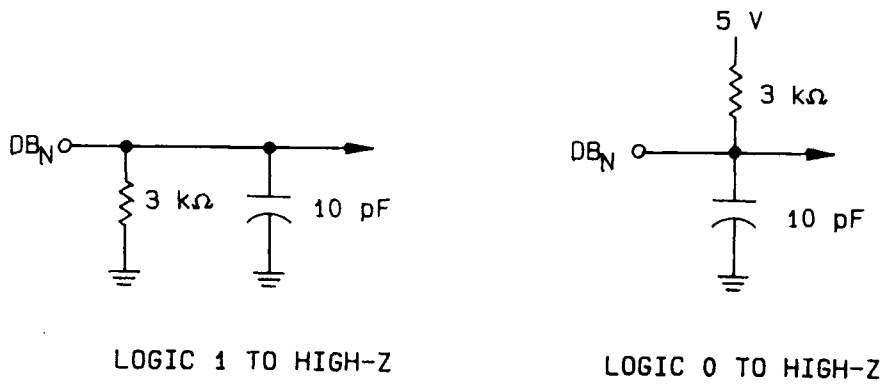

FIGURE 6. Load circuit for output float delay test.
- 11/  $t_{\text{HDR}}$ ,  $t_{\text{HD}}$ , and  $t_{\text{HL}}$  are measured from the point when the input signal crosses the Schottky TTL logic threshold voltage (1.3 V), to when the output voltage has moved 0.5 V in the direction of its final high impedance output voltage. Each individual data bit (DB0 - DB11) is measured for both logic one to "high Z" and logic zero to "high Z" transitions. External loading is as shown on figure 6.